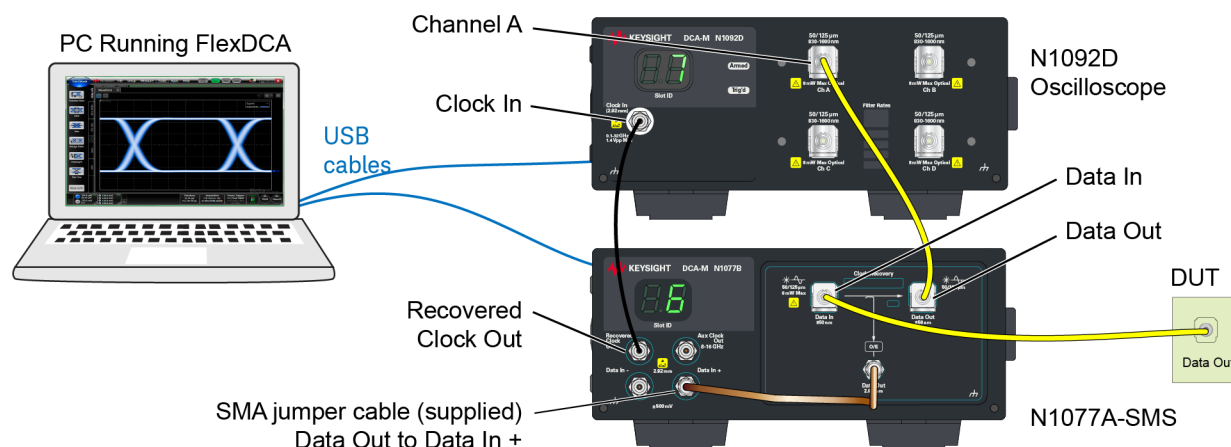

Figure 22. Typical Connection Setup
2. Connect the N1076/7A as shown in Figure 22. If connecting to an DCA-X, be sure to connect the USB cable to the DCA-X's *rear-panel* USB port.